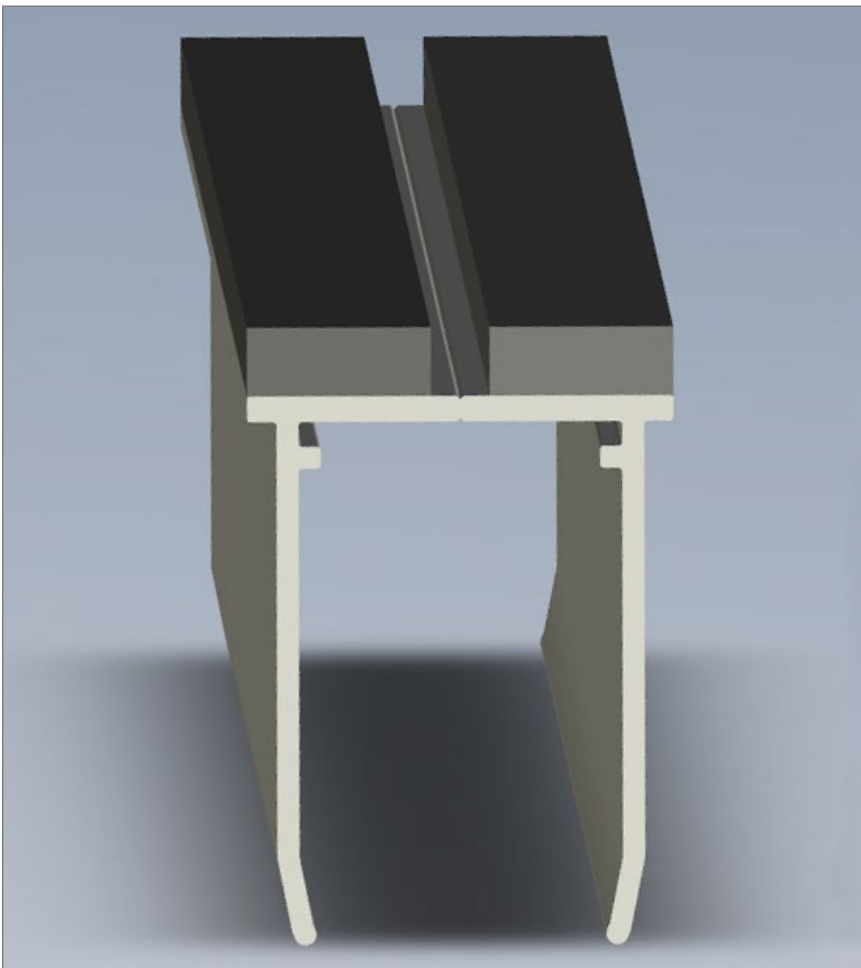

Figure 7: Ceiling Track enhancement.
STEP 3: QTY 1 layer of $\frac{1}{8}$ " thick x $\frac{1}{2}$ " wide (3mm x 13mm) CSF tape applied continuously to top of Ceiling Track on both sides of track centerline (see Figure 7). Fill Ceiling Track void with batt insulation.